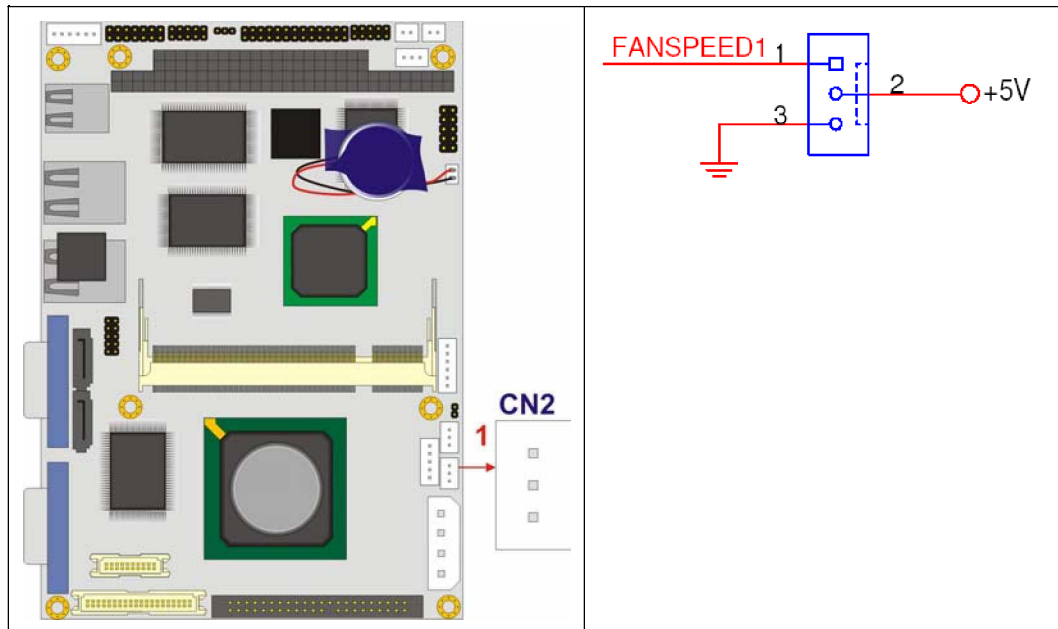

Figure 3-8: Fan Connector Location
- CN Location: See **Figure 3-8**